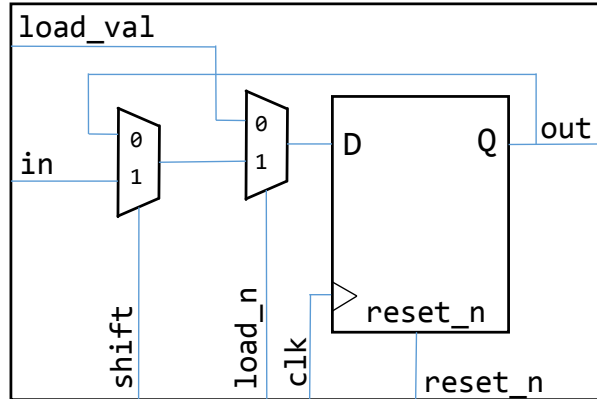
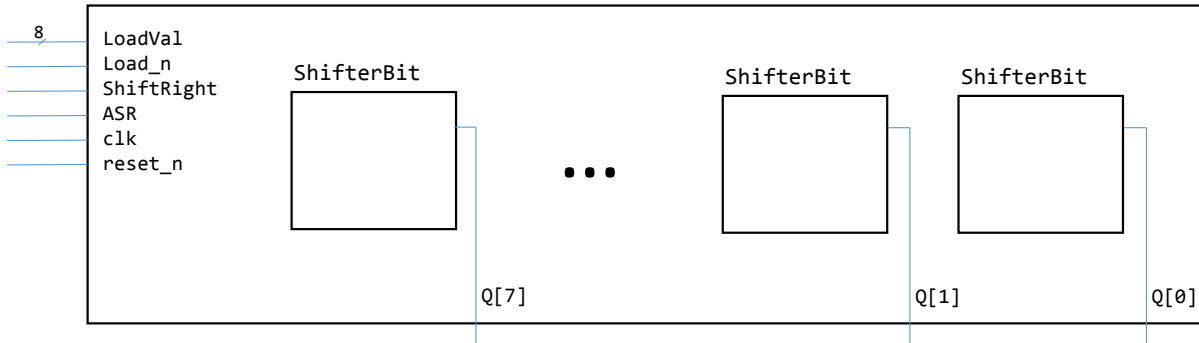

Figure 5: Single-bit shift-register
Figure 6: 8-bit shift-register of Part III. **None** of internal connections are shown here.
edge. Figure 5 shows one bit of this shift-register. It contains a positive edge-triggered flip-flop and two multiplexers. To create an 8-bits shift-register, you will use eight instances of the circuit in Figure 5 to design your 8-bit shift-register with optional arithmetic shift and parallel load as shown in Figure 6.
In the Shifter module, create an 8-bit-wide register input *LoadVal*, whose individual wires are connected to *load\_val* input of *ShifterBit* instances. Likewise, create an 8-bit-wide output *Q*, which is the output of *ShifterBit* instances. The *shift* input of all eight instances of the circuit in Figure 5 should be connected to the single input *ShiftRight*. The same thing applies to *load\_n*, *clock* (*clk*), and *reset\_n*.
The *in* input of seven instances should be connected to the *out* port of the instance to its left. For the leftmost *ShifterBit*, you should design a circuit that will perform sign-extension when the signal *ASR* is high (arithmetic right shift) or load zeros if *ASR* is low (logic right shift). This special circuit is not shown in Figure 6.
1. What is the behaviour of the 8-bit shift register shown in Figure 6 when  $Load\_n = 1$  and  $ShiftRight = 0$ ? Briefly explain in your prelab. **(PRELAB)**
2. Draw a schematic for the 8-bit shift register shown in Figure 6 including the necessary connections. Your schematic should contain eight instances of the one-bit shifter shown in Figure 5 and all the wiring required to implement the desired behaviour. Label the signals on your schematic with the same names you will use in your Verilog code. **(PRELAB)**
3. Starting with the code in Figure 2 for a positive edge-triggered D flip-flop, use this D flip-flop with instances of the *mux2to1* module from Lab 2 to build the one-bit shifter shown in Figure 5. To get you started, Figure 7 is a code snippet that shows how the D flip-flop will be connected to one of the 2-to-1 multiplexers. **(PRELAB)**